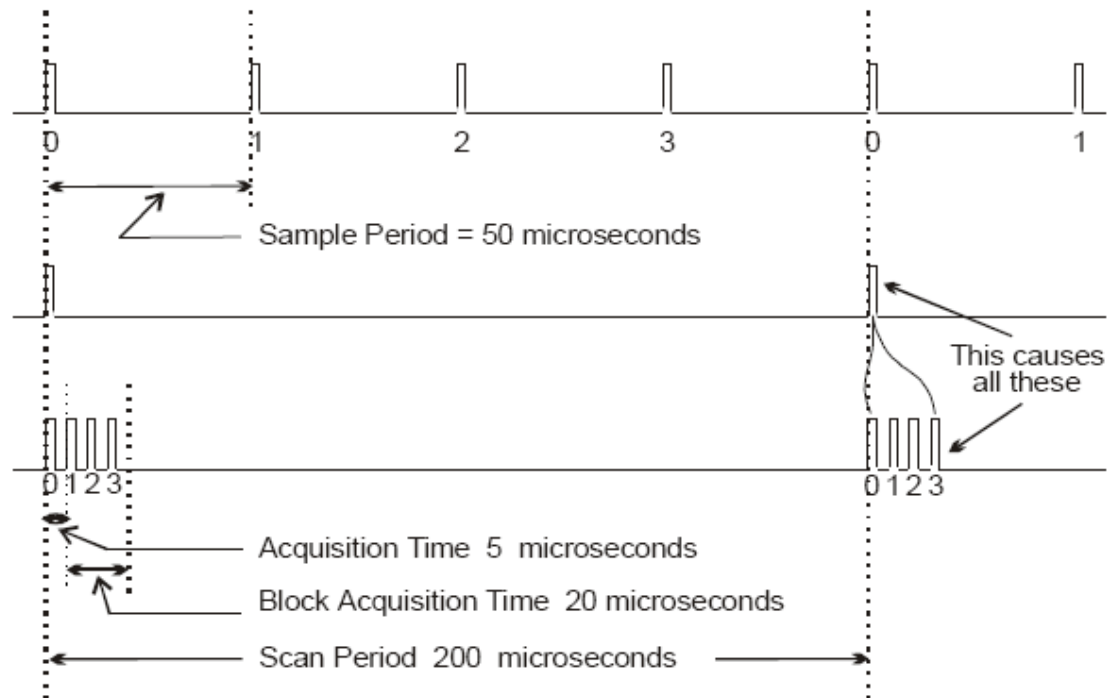

Figure 5.23
- Consider an example where four channels are being sampled at a total throughput rate of 20 kHz, corresponding to a channel scan rate of 5 kHz. Figure 5.23 shows that in continuous scanning mode, the total scan time is 200 μs , with the samples evenly spaced every 50 μs .